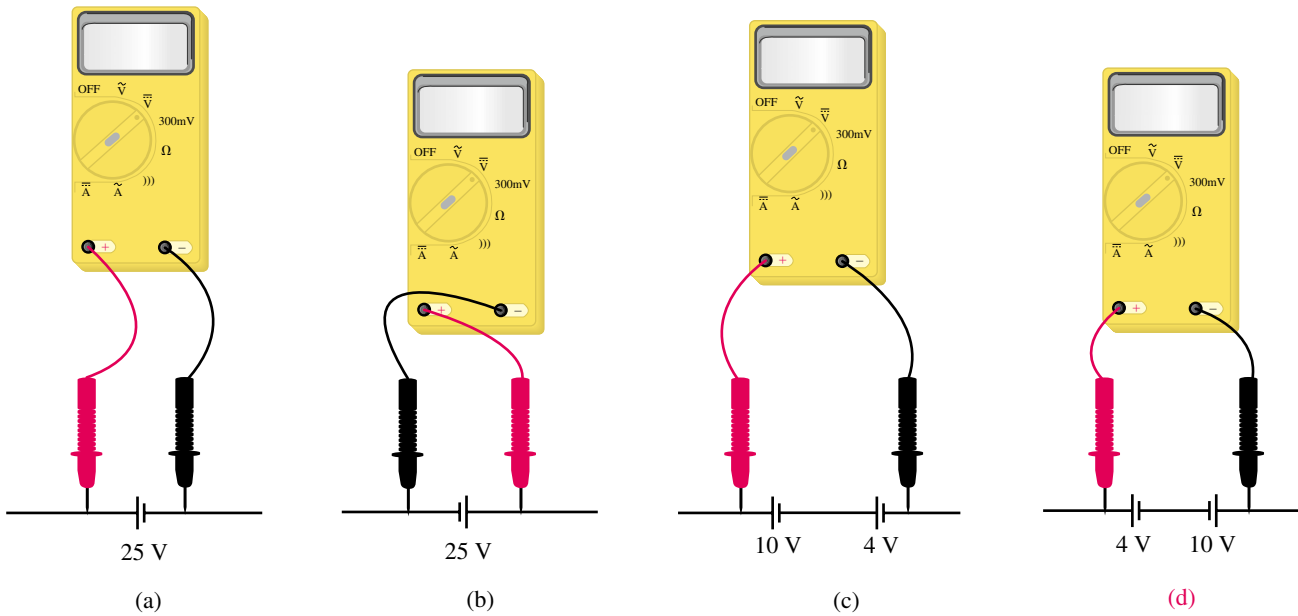

FIGURE 2–31
32. How long does it take 312×10^{19} electrons to pass through the circuit of Figure 2–26(b) if the ammeter reads 8 A?
33. If 1353.6 J are required to move 47×10^{19} electrons through the lamp of Figure 2–1 in 1.3 min, what are V and I ?
35. For the battery of Figure 2–8, chemical action causes 15.6×10^{18} electrons to be transferred from the carbon rod to the zinc can. If 3.85 joules of chemical energy are expended, what is the voltage developed?
39. The battery of Figure 2–14 is rated at 81 Ah at 5°C. What is the expected life (in hours) at a current draw of 5 A at –15°C?
40. The battery of Figure 2–14 is expected to last 17 h at a current drain of 1.5 A at 25°C. How long do you expect it to last at 5°C at a current drain of 0.8 A?
42. The digital voltmeter of Figure 2–31 has autopolarity. For each case, determine its reading.
43. The current in the circuit of Figure 2–32 is 9.17 mA. Which ammeter correctly indicates the current? (a) Meter 1, (b) Meter 2, (c) both.
44. What is wrong with the statement that the voltage through the lamp of Figure 2–22 is 70.3 V?
45. What is wrong with the metering scheme shown in Figure 2–33? Fix it.